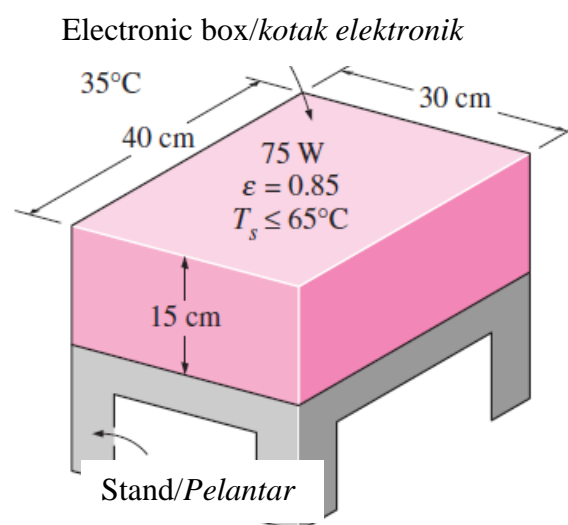

Figure 4: Electronic box with stand
- (c). Consider a sealed electronic box which has dimensions 15 cm × 30 cm × 40 cm placed on top of a stand in a room at 35°C, as shown in Figure 4. The box is painted, and the emissivity of its outer surface is 0.85. If the electronic components in the box dissipate 75 W of power and the outer surface temperature of the box is not to exceed 65°C, determine if this box can be cooled by natural convection and radiation alone. Assume the heat transfer from the bottom surface of the box to the stand to be negligible.